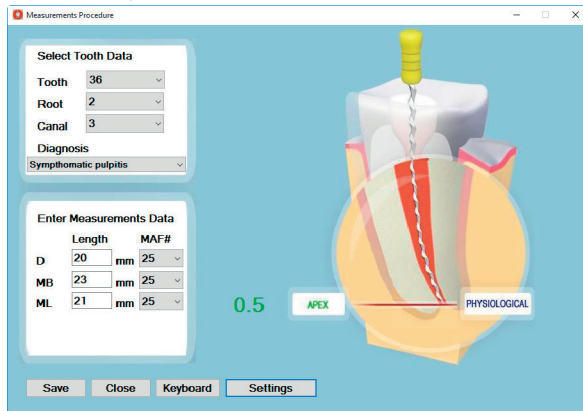

Fig. 18
- Visualization of measuring data on PC computer display without any measuring data entry and saving (Fig. 18).